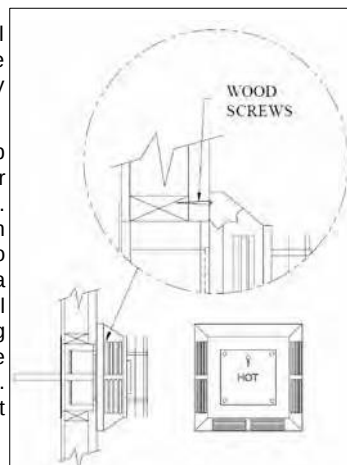

Figure 36: Fastening Horizontal Termination Cap in Place.
- (1) Any horizontal run of vent must have a ¼ inch (6mm) rise for every 1 foot (305mm) of run towards the termination. Never allow the vent to run downward. This could cause high temperatures and may present the possibility of a fire.
- (2) The location of the horizontal vent termination on an exterior wall must meet all local and national building codes, and must not be easily blocked or obstructed. Termination clearances must comply with the **Vent Termination Restrictions** section.
- Step 4.** For a Square Horizontal Vent Termination, place the vent cap in the center of the square hole and attach to the exterior wall with the four wood screws provided (refer to Figure 36). Before attaching the Vent Termination to the exterior wall, run a bead of non-hardening sealant around its outside edges, so as to make a seal between it and the wall. If you are using a Round Horizontal Vent Termination, place an exterior Wall Firestop over the square hole. Run a bead of non-hardening sealant around the edges of the Wall Firestop, and attach the Wall Firestop to the wall with the four wood screws provided. The arrow on the vent cap should be pointing up. Ensure that proper clearances to combustible materials are maintained.